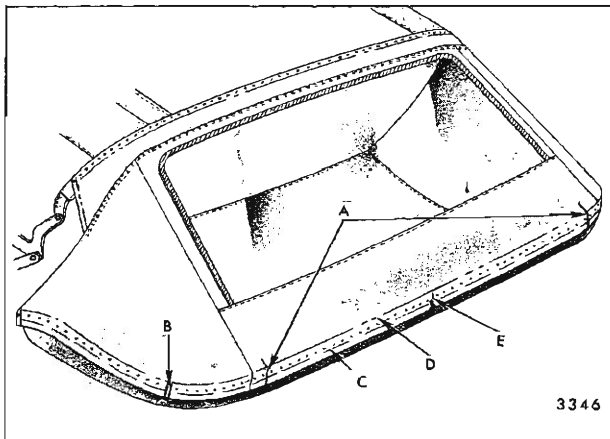

Fig. 13-18—Back Curtain Installation
2. Transfer reference marks from removed back curtain to new one as follows: Place new back curtain on clean covered bench with inner surface down. Position removed back curtain correspondingly over new one. Carefully align upper window over lower one. While holding both curtains together securely, carefully lay out trim material of both curtains and transfer following reference marks along bottom: location of trimstick(s) (upper and lower trimstick edges, as well as ends); location of inner vertical edges of top cover; on "F" and "Z" styles, location of bolt holes. Allow 1/2 inch of back curtain material to extend below trimstick(s) (Fig. 13-18 and 13-19).